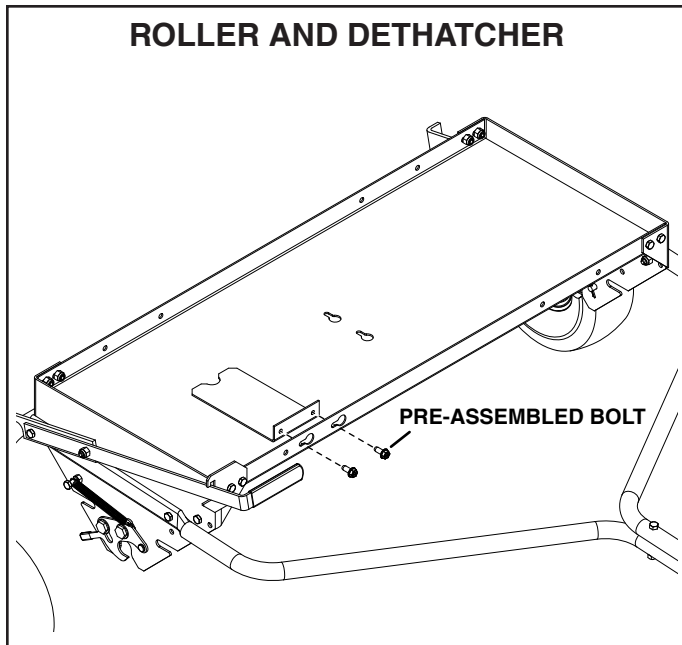

FIGURE 9
1. For roller and dethatcher tools, the center brace should be attached to the top of the Smartlink Platform as shown in figure 9. **Tighten.**